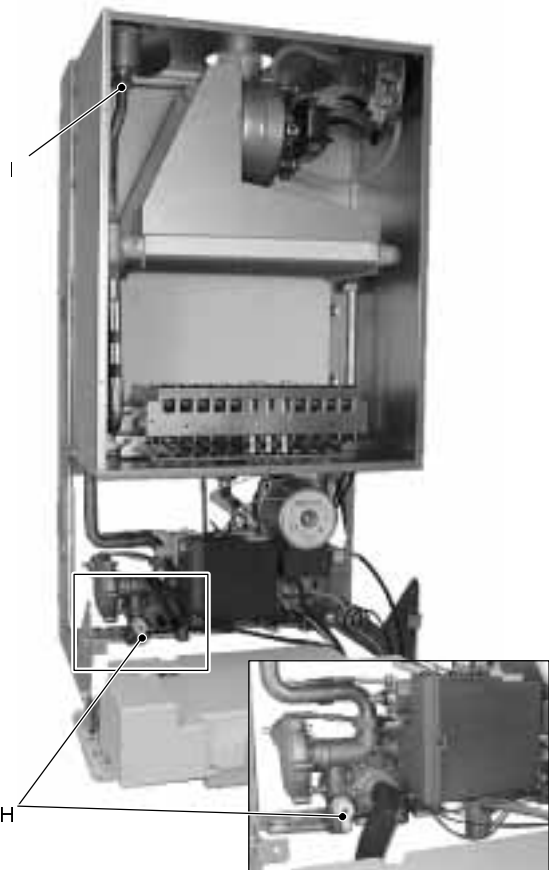

fig. 10
- 1 Connect a hose to the valve provided for the filling loop connection fitted on the c.h circuit. (fig. 10).
- 4 Open the draining tap *H* (fig. 10) until the boiler is completely emptied.
To facilitate the downflow of water, remove the front panel, also remove the sealed chamber lid and loosen the nut *I* (fig. 10) of the automatic air bleed valve. Tighten it again once the emptying has been completed.